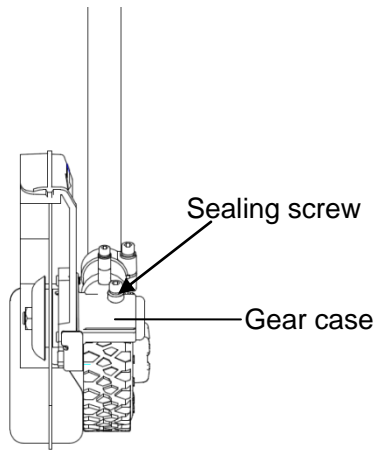

Fig. 34
1. Position the edger upright so that the sealing screw is facing upwards (Fig. 34).